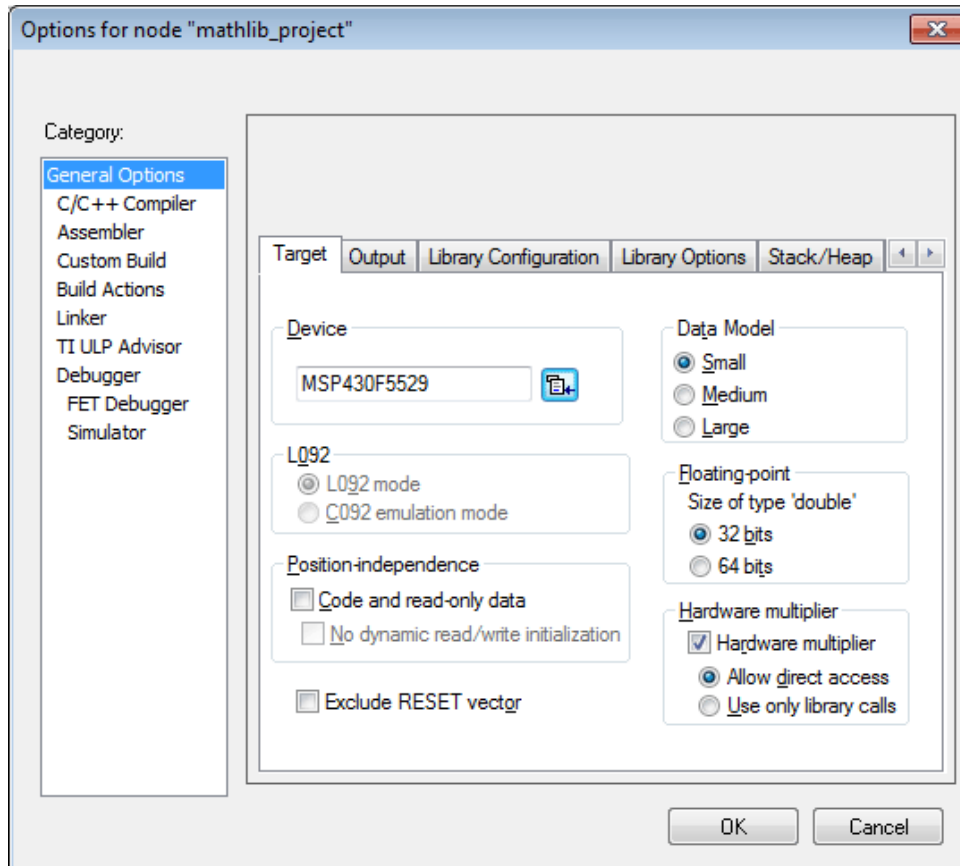

Figure 7. Options for Project
3. In the General Options category, select the data model to use (see Figure 7).